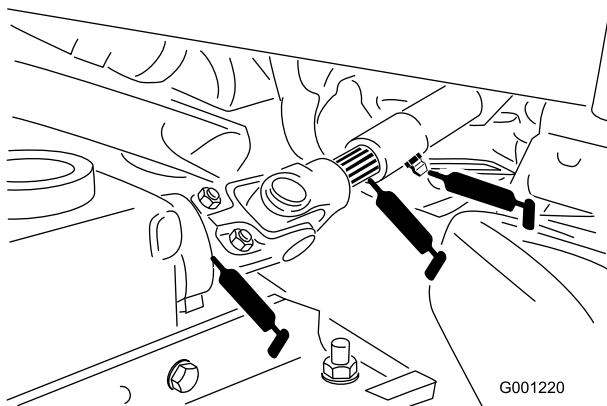

Figure 30
- PTO universal shaft (Figure 30)